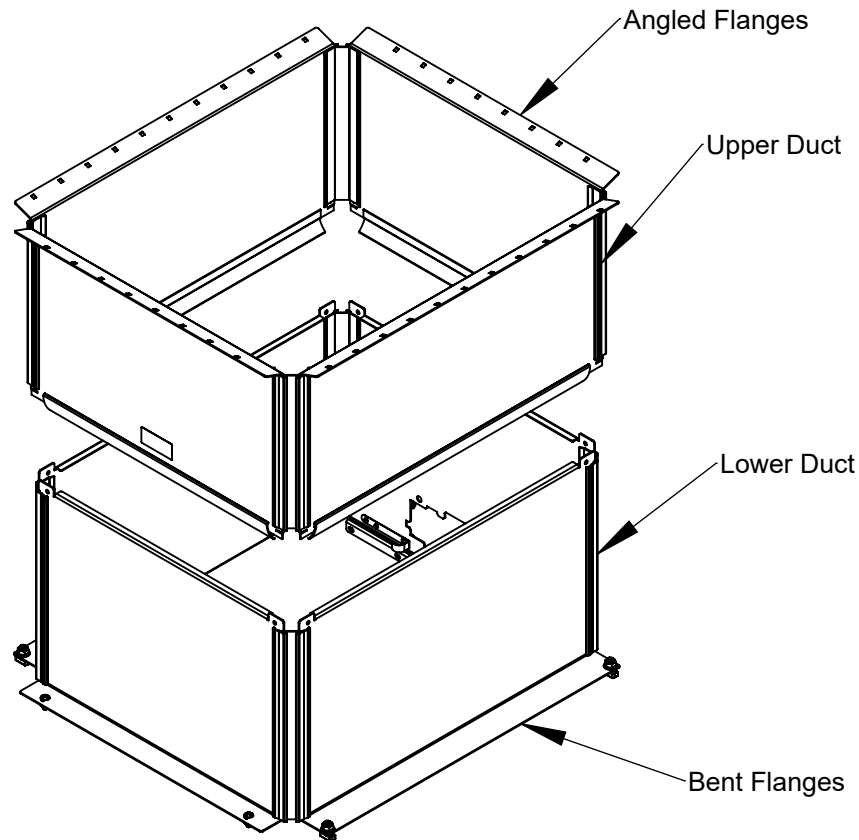

Fig. 3
3. Slide the Upper Duct over the Lower Duct and push down. Note the Lower Duct will be inside the Upper Duct (Fig. 3).